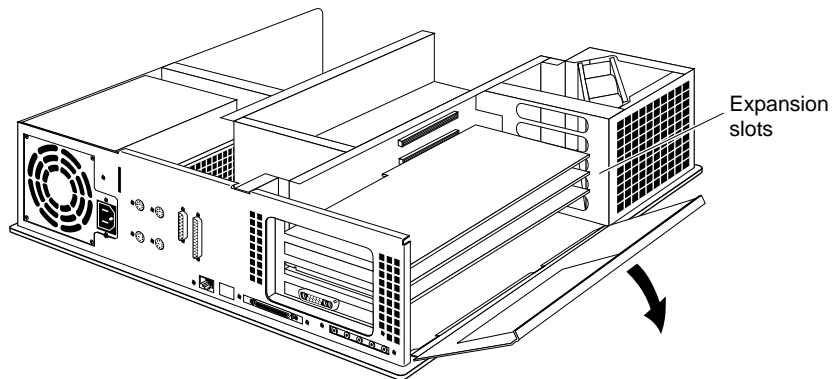

Figure 5-53 Opening the Metal Panel
1. Move the workstation or position yourself so that you are facing the expansion slots, as shown in Figure 5-53.